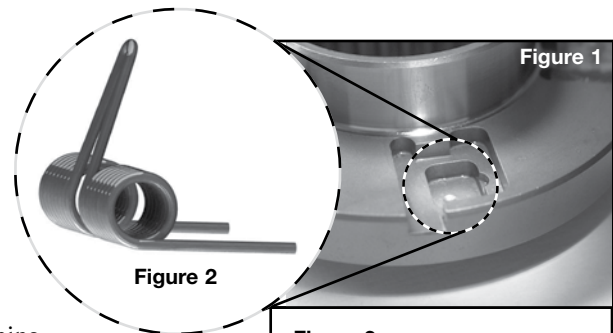

Figure 3
3. The strut is basically square-shaped with two tabs. Note the two tabs are different widths (**Figure 3**). Installing the small and large tab in the matching small and large cavities positions the strut for correct operation. Install the strut with the smaller tab inboard on the hub and the larger tab outboard on the hub.